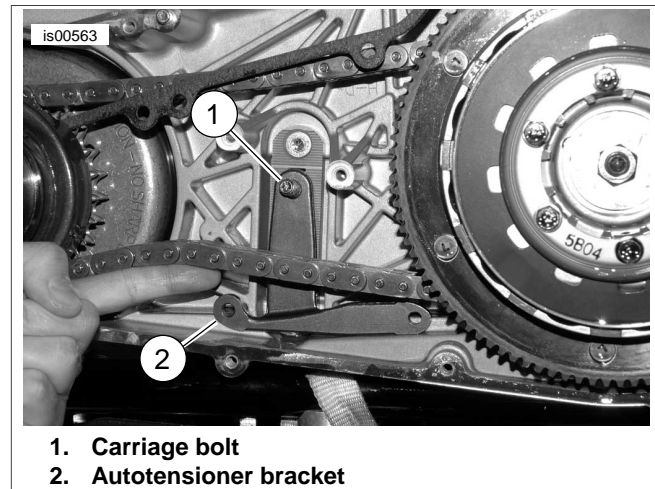

Figure 3. Autotensioner Bracket
5. See Figure 3. Install the autotensioner bracket (2) over the carriage bolt (1), behind the primary chain. Loosely secure the bracket using the nut and washer removed in Step 4.